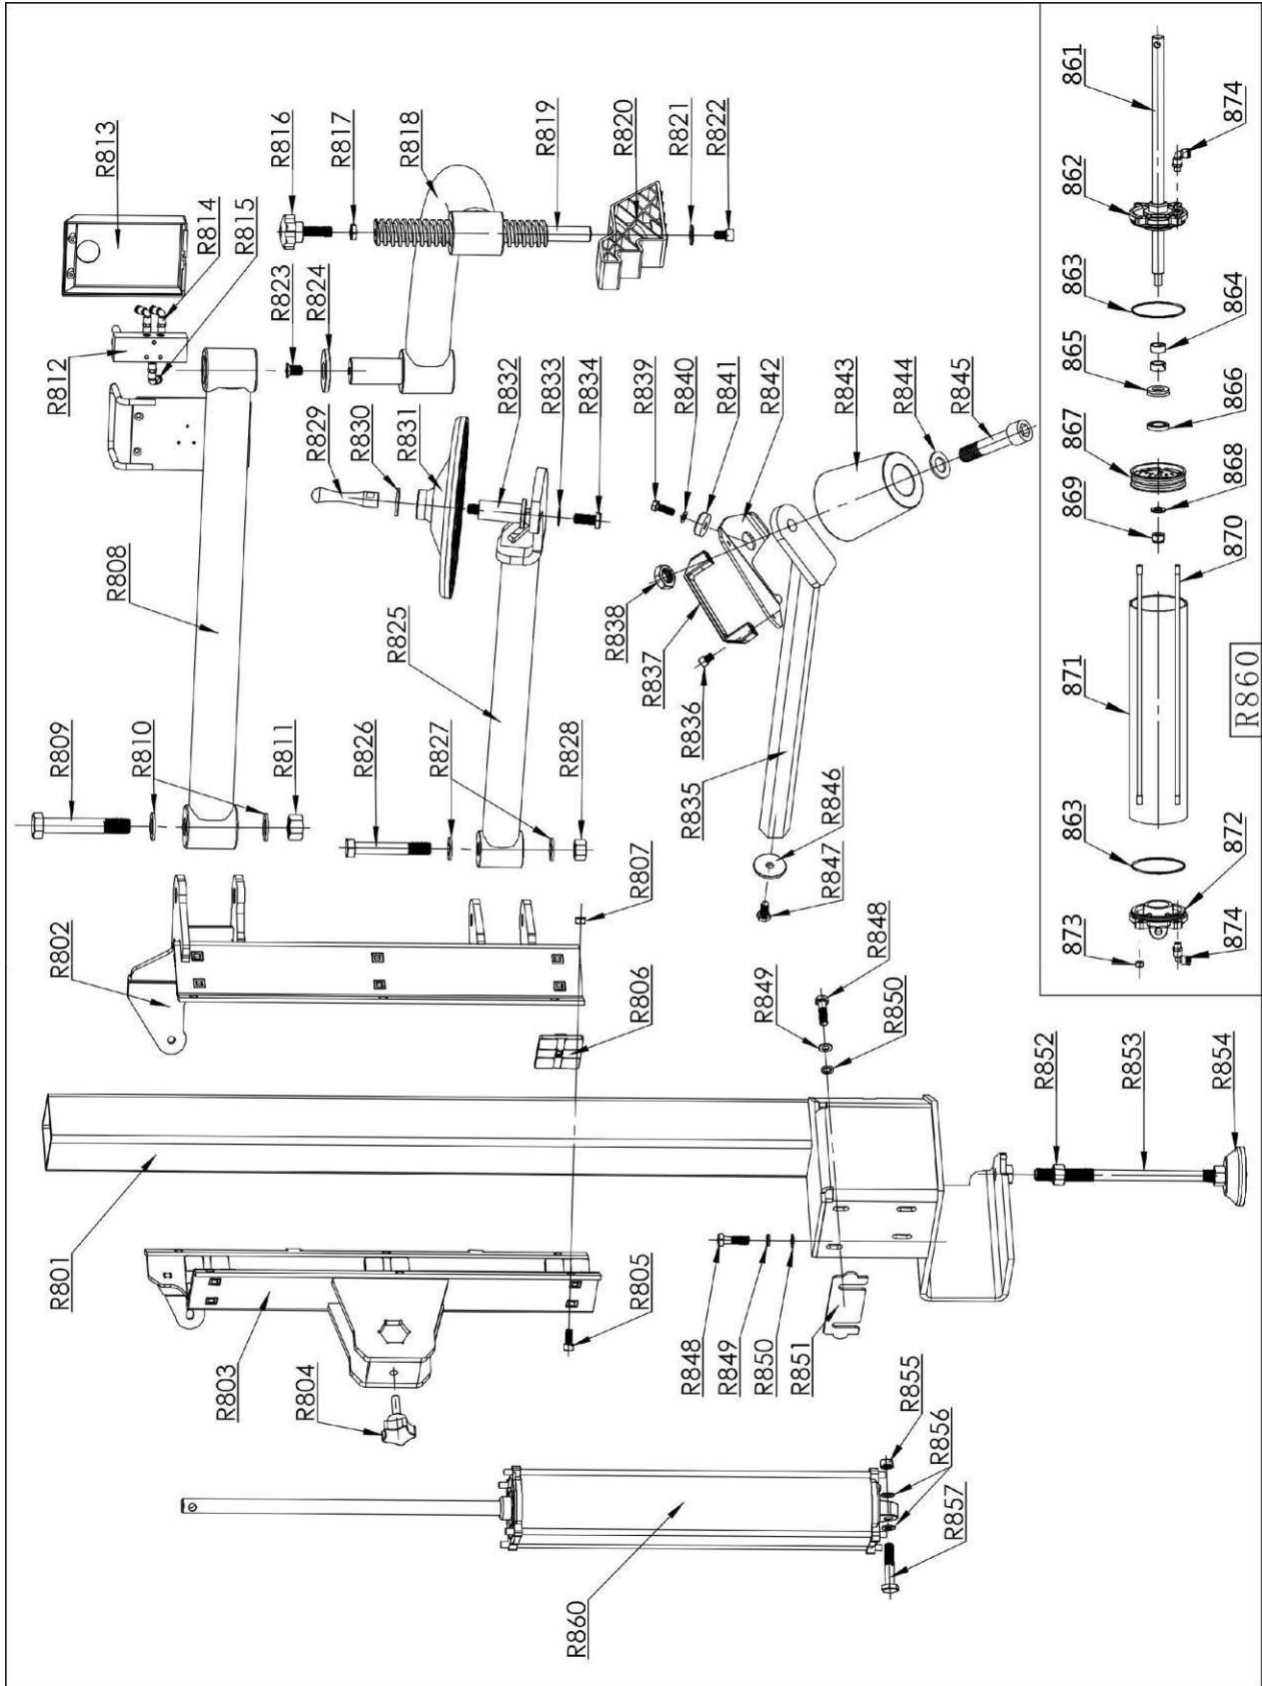

Fig.14
1011812 主机① (图 14)
2065717 Rise and fall cylinder assemble (Fig.14)